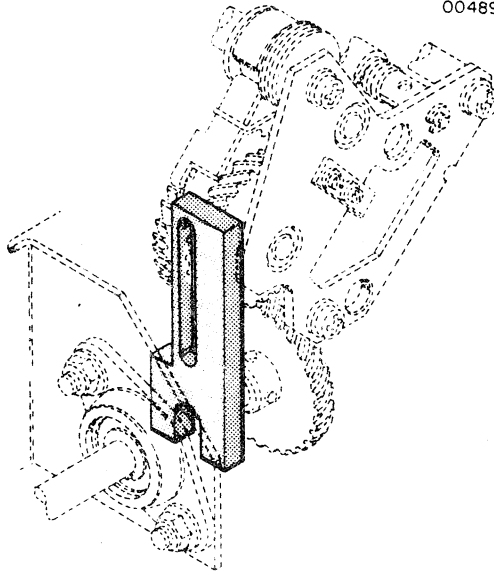

Figure 3-15. LINE FEED CLUTCH
5. Line Feed Clutch Helical Gear Adjustment (Refer to Figure 3-15)